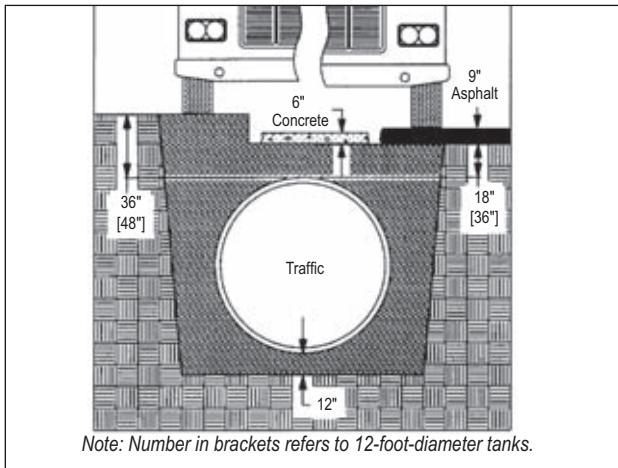
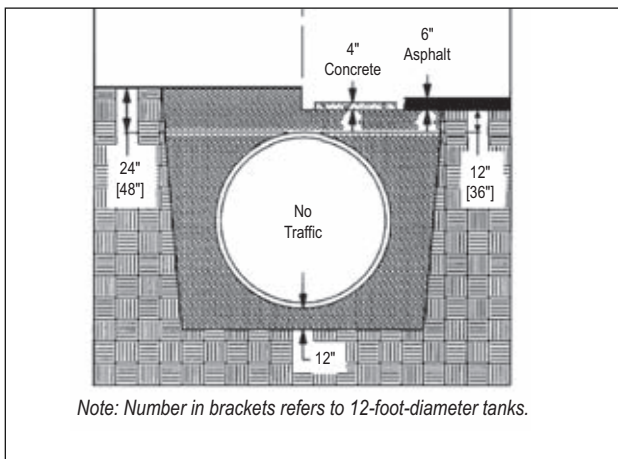

FIGURE 6-1
FIGURE 6-2
6.2.2. For additional requirements and specifications, refer to federal, state and local codes; NFPA 30, 30A and 31; API RP 1615; PEI RP100; and FIGURE 6-1 and FIGURE 6-2.
6.2.3.1. Tanks subjected to traffic loads (H-20 loads) must have a cover depth of at least 36 inches of backfill [48 inches for 12-foot-diameter tanks], or 18 inches of backfill [36 inches for 12-foot-diameter tanks] plus 6 inches of reinforced concrete or 9 inches of asphalt. (See FIGURE 6-1.) **In a wet condition, sufficient overburden and/or an appropriate anchoring system must be present to offset buoyancy of the tank.**
6.2.3.2. Tanks not subjected to traffic loads must have a cover depth of at least 24 inches of backfill [48 inches for 12-foot-diameter tanks], or 12 inches of backfill [36 inches for 12-foot-diameter tanks] plus 4 inches of reinforced concrete or 6 inches of asphalt. (See FIGURE 6-2.) **In a wet condition, sufficient overburden and/or an appropriate anchoring system must be present to offset buoyancy of the tank.**